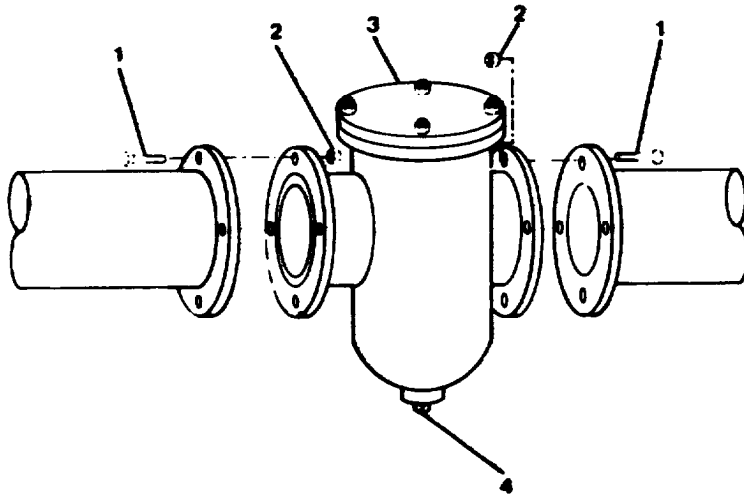

FIGURE 2-242. 4-Inch Sediment Strainer Basket, Removal.
- a. Place a drip pan under sediment strainer basket (3, FIGURE 2-242) and remove drain plug (4).
- b. Replace drain plug (4) after draining strainer.
- c. Remove nuts (2) and bolts (1).
- a. Install sediment strainer basket (3, FIGURE 2-242) and attach with bolts (1).
- b. Install nuts (2) and torque to 75 ft-lb (102 N•m).